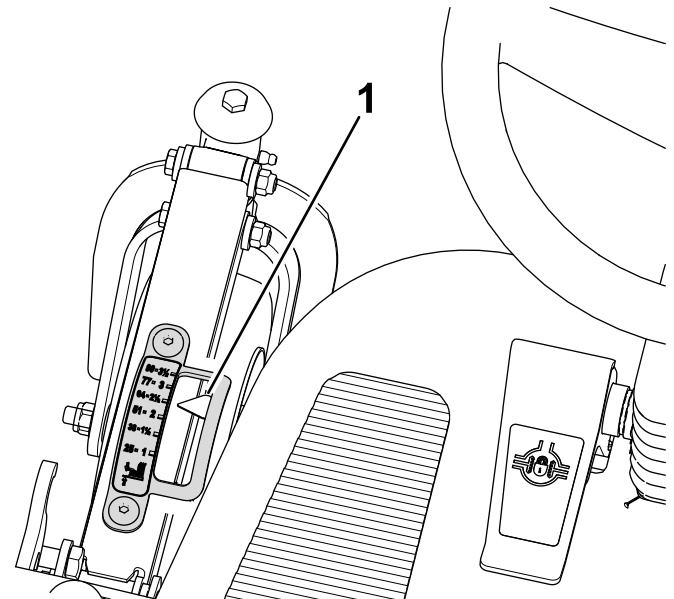

Figure 97
1. Adjust the height of cut to the 64 mm (2-1/2 inch) position (Figure 97).